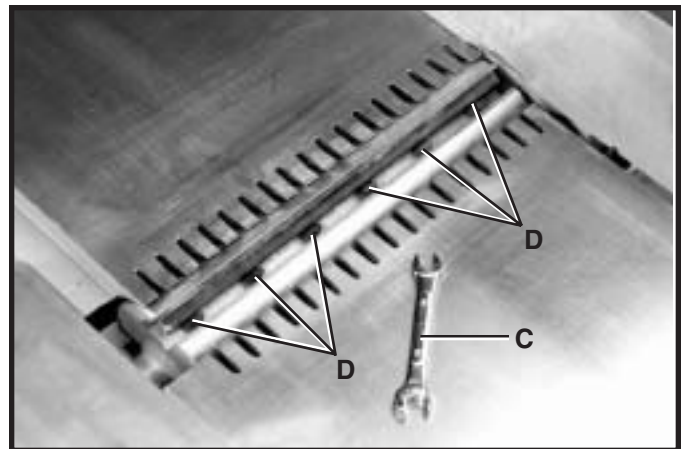

Fig. 44
4. Using wrench (C) Fig. 44, slightly loosen the six knife locking screws (D) in each knife slot by turning the screws (D) clockwise. This relieves stress in the cutterhead.
5. Loosen screws (D) Fig. 44, further, and remove the knife, knife locking bar and lifter springs located under the knives. Remove the remaining two knives in the same manner.